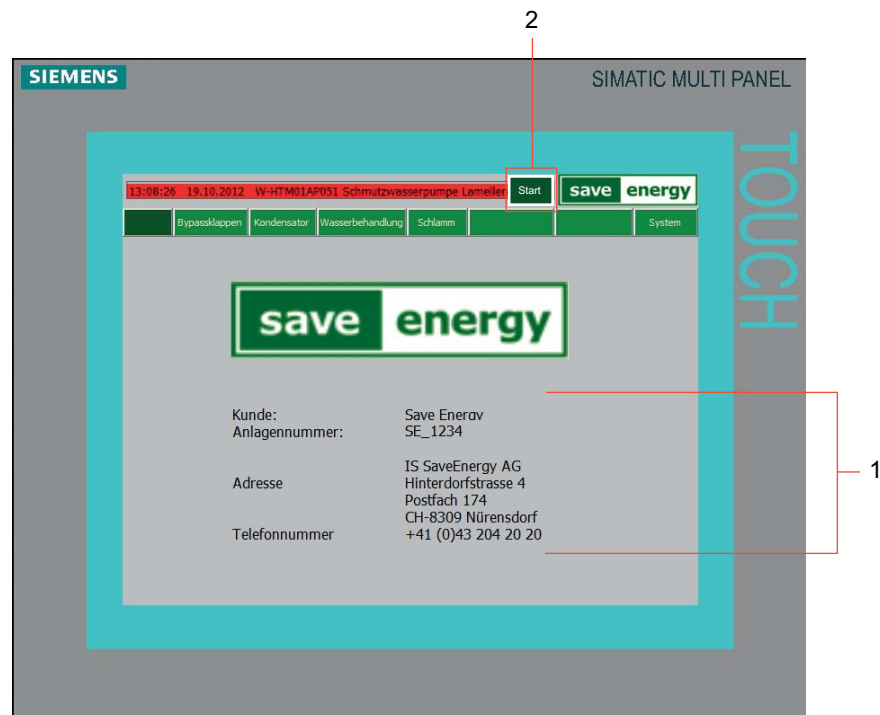

Fig. 42 - Start screen
- ▶ Start the condenser, the water treatment system, and optional equipment such as the wet electrode precipitator and the devaporiser by activating the "Start" button on the control panel (Fig. 42 - Item.2).